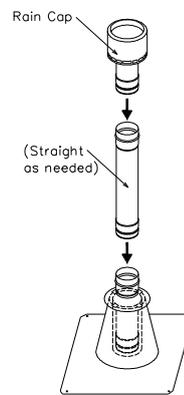

Fig 7 Detail of Vertical Installation
If the appliance manufacturer's instructions or local regulations call for a condensate drain, locate the Drain Tee (Horizontal or Vertical) - shown in TABLE 2- as close as possible to the appliance exhaust gas outlet (flue collar) (See FIG 7). Locate the Drain Tee Horizontal at any transition from horizontal to vertical vent run. Confirm the direction of the Drain Tee Vertical, which has the direction label (UP,DOWN).
(2)VERTICAL INSTALLATION (See FIG.7)